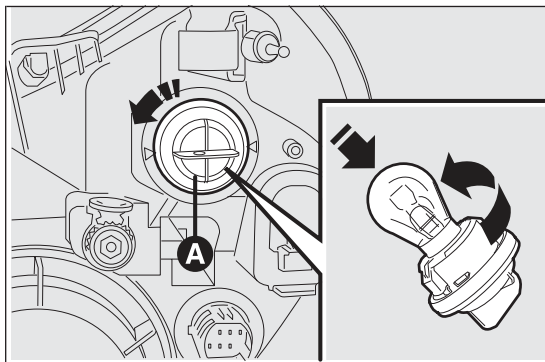

fig. 194
- ☐ turn bulb holder A fig. 194 anticlockwise and remove it;